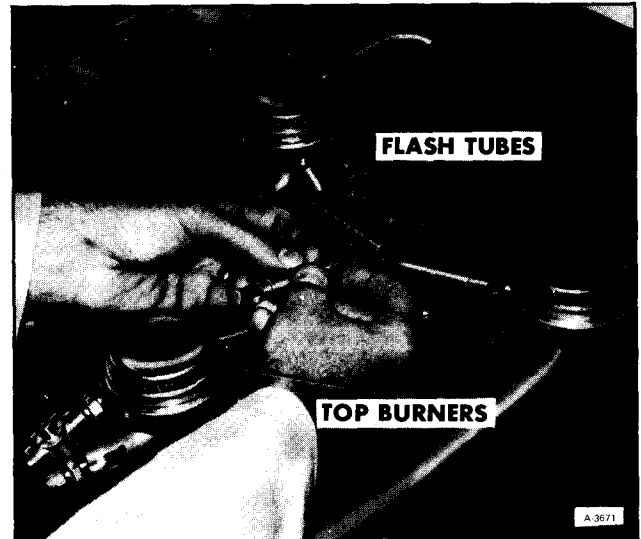

Figure 14—Disconnecting Flash Tubes
6. Disconnect flash tubes from top burners (figure 14).
2. Unhook flash tube from burner (figure 14).